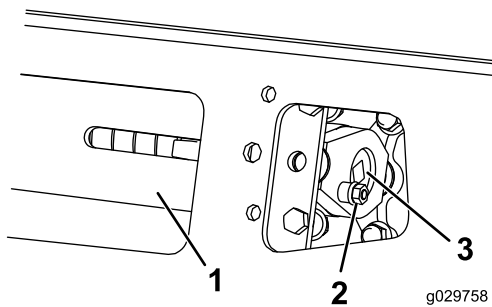
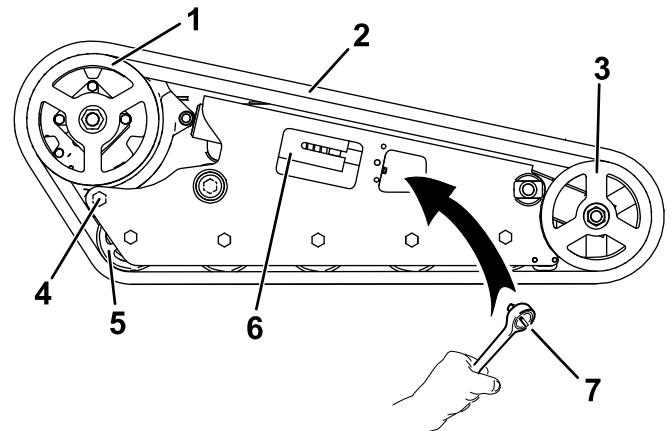

Figure 53
Figure 54
3. Remove the locking bolt and nut (Figure 53).
5. Align the closest notch in the tension screw to the locking-bolt hole and secure the screw with the locking bolt and nut (Figure 53).
3. Using a 1/2-inch drive socket, release the drive tension by turning the tensioning screw clockwise (Figure 53 and Figure 54).
4. Loosen the rear bolt, near the drive wheel (Figure 54).
6. When the track is off the front wheel, remove it from the drive sprocket and road wheels (Figure 54).
7. Beginning at the drive sprocket, coil the new track around the sprocket, ensuring that the lugs on the track fit between the spacers on the sprocket (Figure 54).
8. Push the track under and between the road wheels (Figure 54).